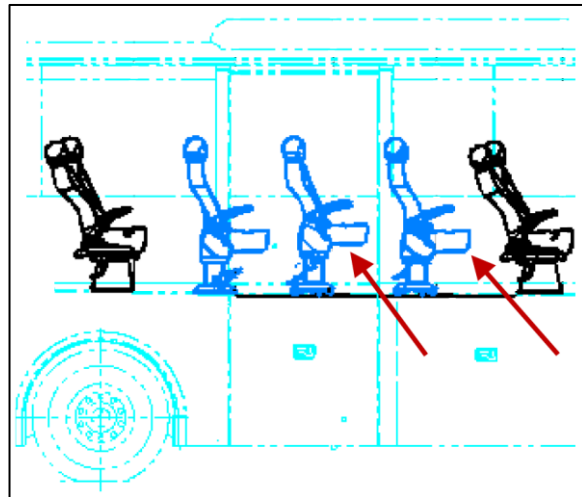

FIGURE 1
1. Locate the sliding seats on both sides of the vehicle (Figure 1).